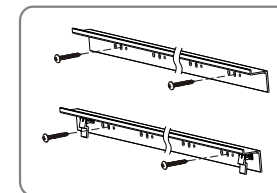

Figure 19
- Wood wall mounting: to fix the brackets onto the wall using 4 provided Wooden screws $\varnothing 5 \times 40$, two screws for each bracket. (Figure 19)